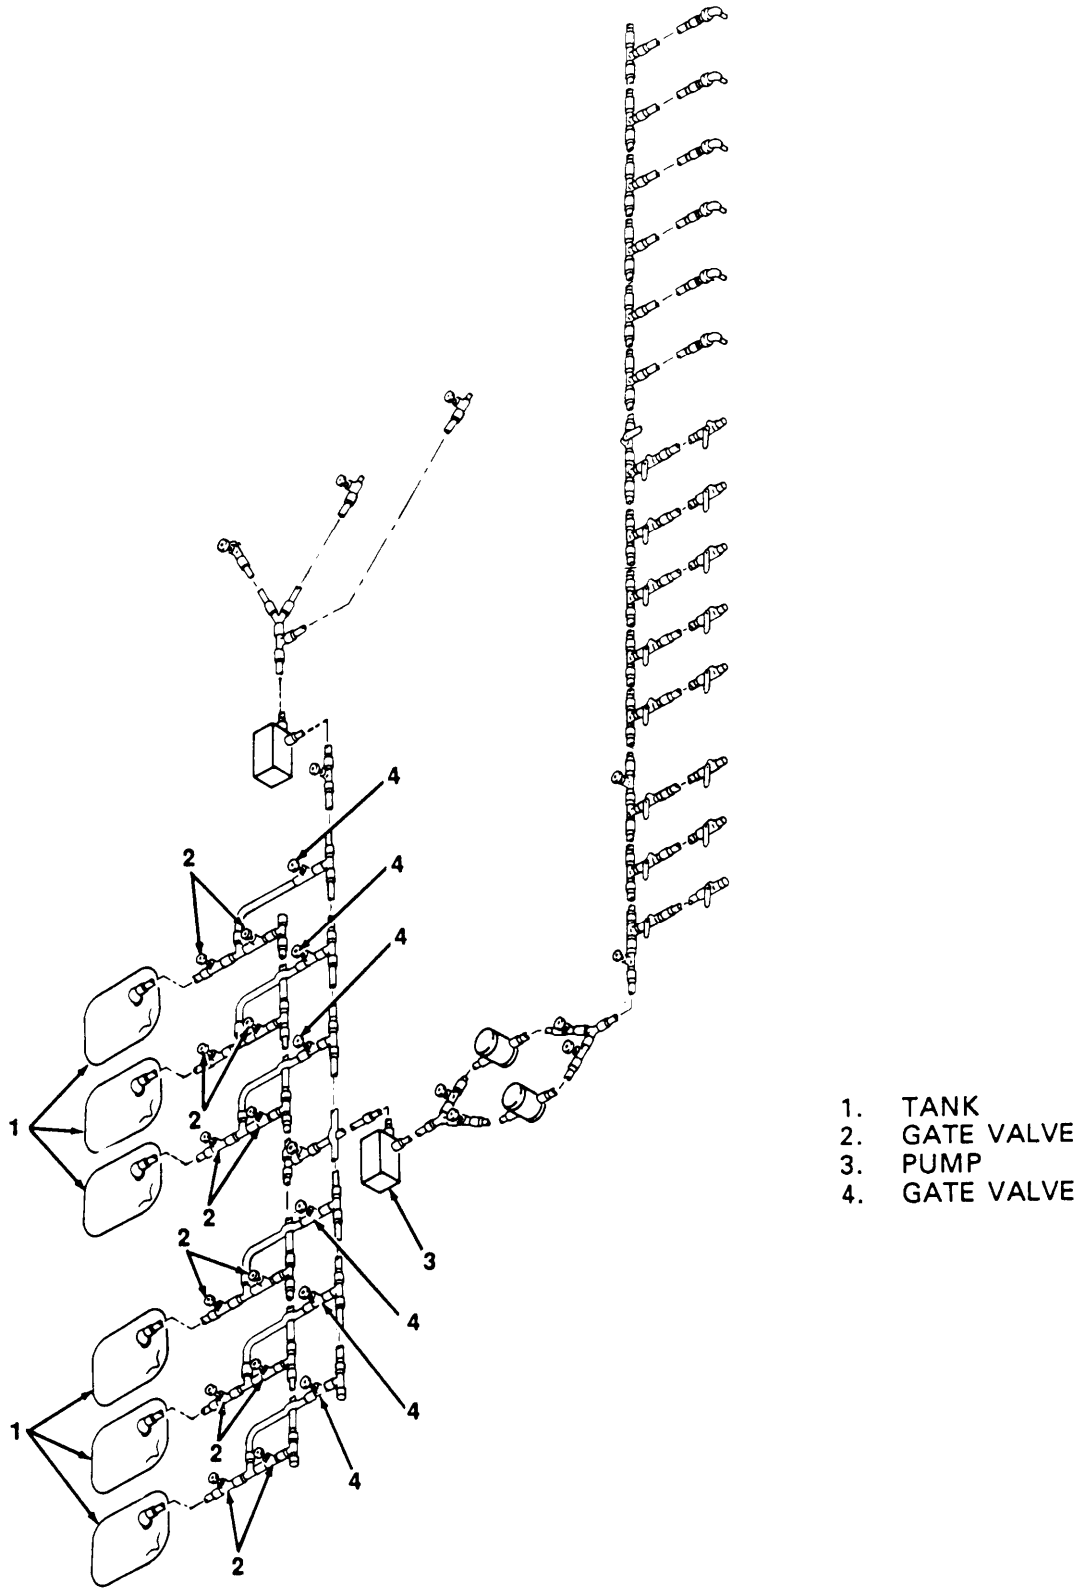

Figure 2-3. Preparation for Movement.
- 2-7. **Preparation for Movement** (figure 2-3). Prepare the fuel system for movement to another site in accordance with the following procedure:
All index number references in the following steps refer to figure 2-3.